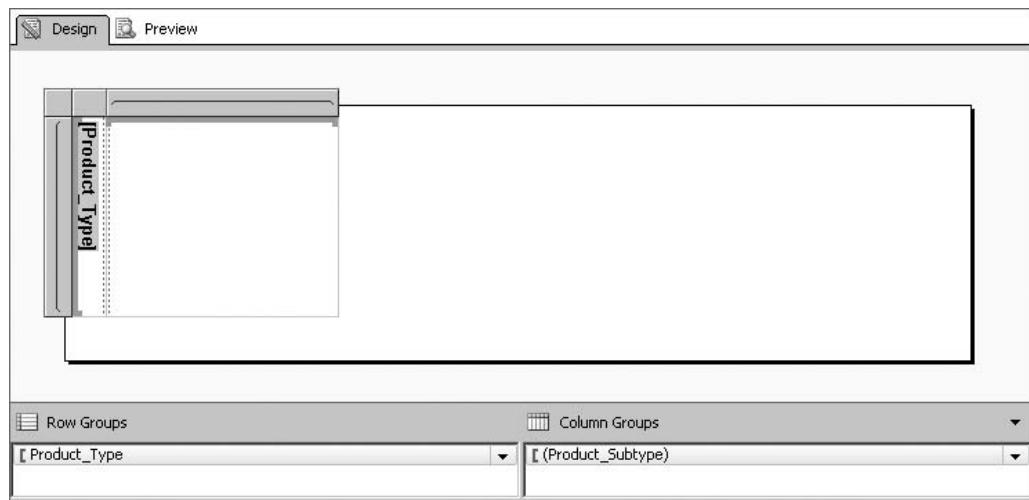

Figure 16-62 The Percent Rejected Dashboard Report layout in progress
52. Select the Delete rows only option and click OK. This will delete the row but leave the column grouping on product subtype. The report layout appears as shown in Figure 16-62.